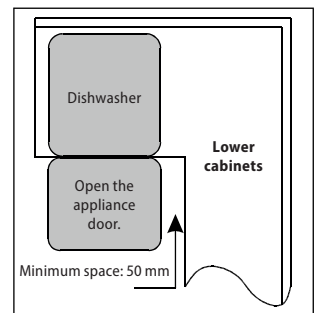

Fig. 15
- If the dishwasher is installed in a corner of the lower cabinets, make sure there is a free space around the open dishwasher door 50 mm (Fig. 15).